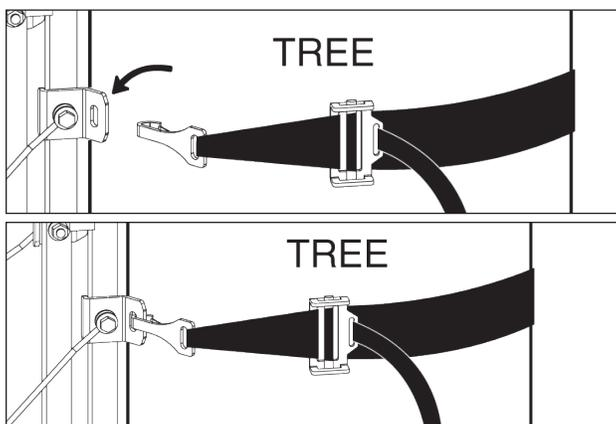

Figure 5
b. Take buckle and wrap around tree. Be sure the strap is even and at the same level all the way around the tree. Also, be sure there are no twists in the strap. Connect hook to opposite side of stand by inserting thru hole (slot) provided. **SEE FIGURE 5.**
c. Pull on excess end of strap firmly - snugging up stand to tree. **SEE FIGURES 5 AND 6.**
**DO NOT TWIST STRAP WHEN ATTACHING. SEE FIGURE 5 FOR CORRECT ATTACHMENT.**